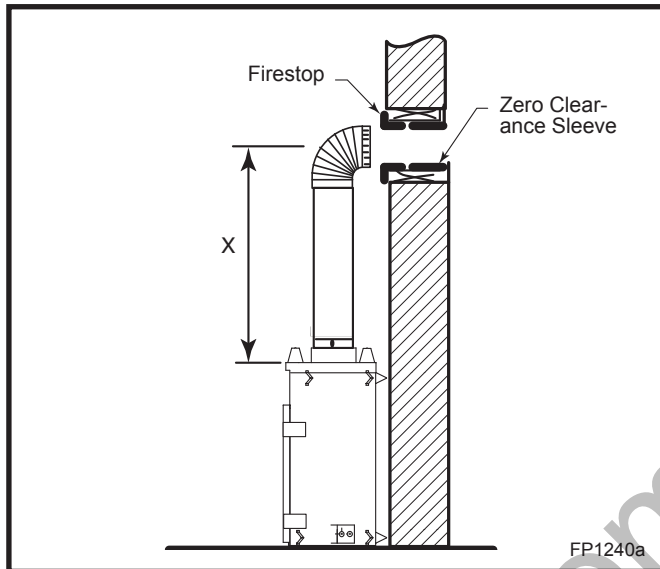

Fig. 22 Vertical height requirement.
Place fireplace into position. (Fig. 22) Measure the vertical height (X) required from the base of the flue collars to the center of the wall opening. **NOTE:** If using the SK8DVSK Kit, the vertical section of pipe is telescopic and could provide adjustment from 24" up to 40" (610 mm to 1016 mm).